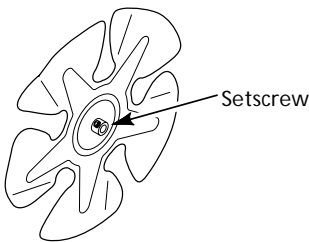

Figure 12 - Setscrew Location
- Use hex wrench to loosen set screw that holds fan to motor shaft (See Figure 12).